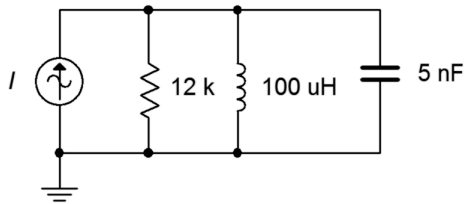

Figure 8.11
25. For the circuit shown in Figure 8.11, determine the resonant frequency, system Q and bandwidth. If the source is 500 μ A, determine the resistor voltage and the three branch currents at resonance. Assume the inductor's Q is given by curve C.